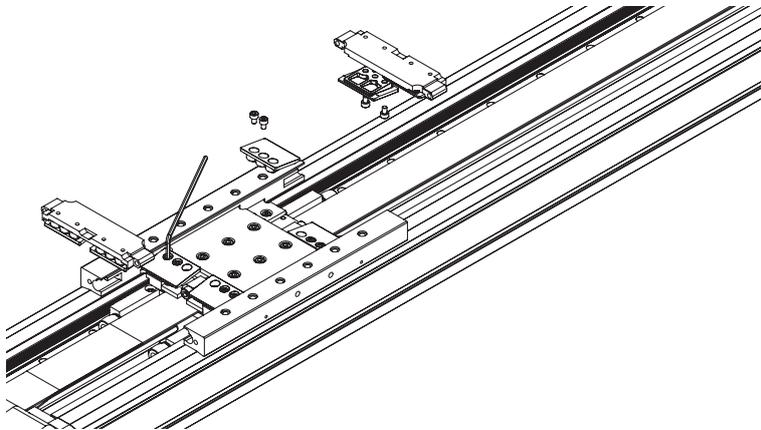

Fig. 7.14 Removing/mounting the cover strip guide
- ▶ If necessary, replace the cover strip guides on the top of the carriage profile and the bottom of the cover strip deflection (see Fig. 7.14).